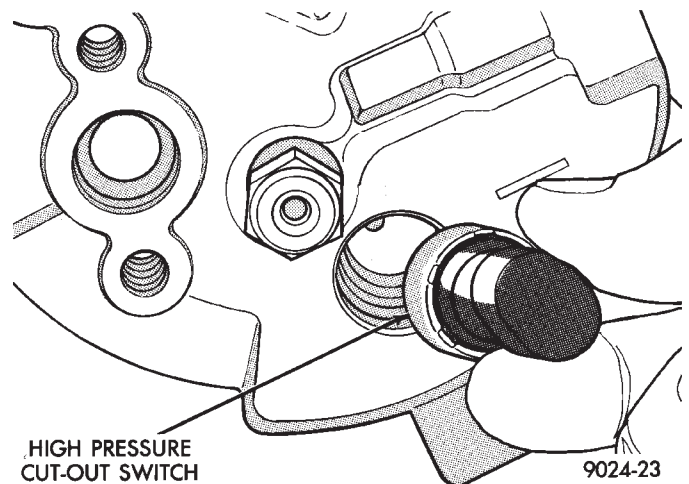

Fig. 18 Remove or Install High Pressure Cut-out Switch
- (4) Pull switch straight out from end cover. Remove and discard used O-ring seal (Fig. 18).